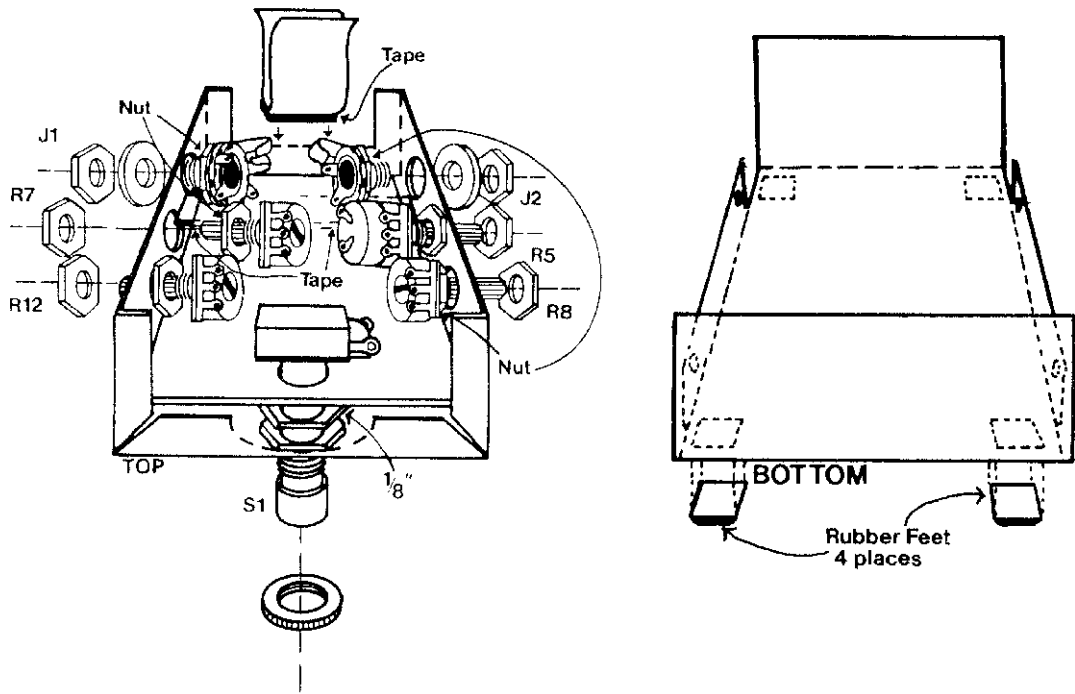

FIG. 3
- () Install the longest piece of tape on the inside TOP of the case as shown in figure 3. REMOVE THE PROTECTIVE PAPER FROM ONLY ONE SIDE OF THE TAPE.
- () Locate the "U" shaped battery holder and stick the small piece of tape to the bottom of it. Remove the paper from the other side of the tape and position it to the inside of the case top as shown in figure 3.
In the following steps, when the jacks and pots are installed, one of each of the pair of nuts supplied should be threaded onto it's shaft and used as a spacer. Adjust this nut so that when the part is installed as little of the shaft as possible extends outside the case. Refer to figure 3.